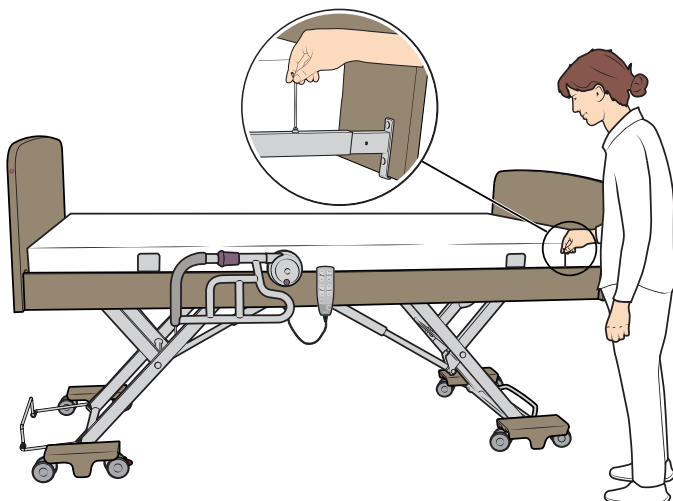

Figure 49
3. To secure the footboard, tighten the screws on **both** sides of the foot end. See Figure 49.